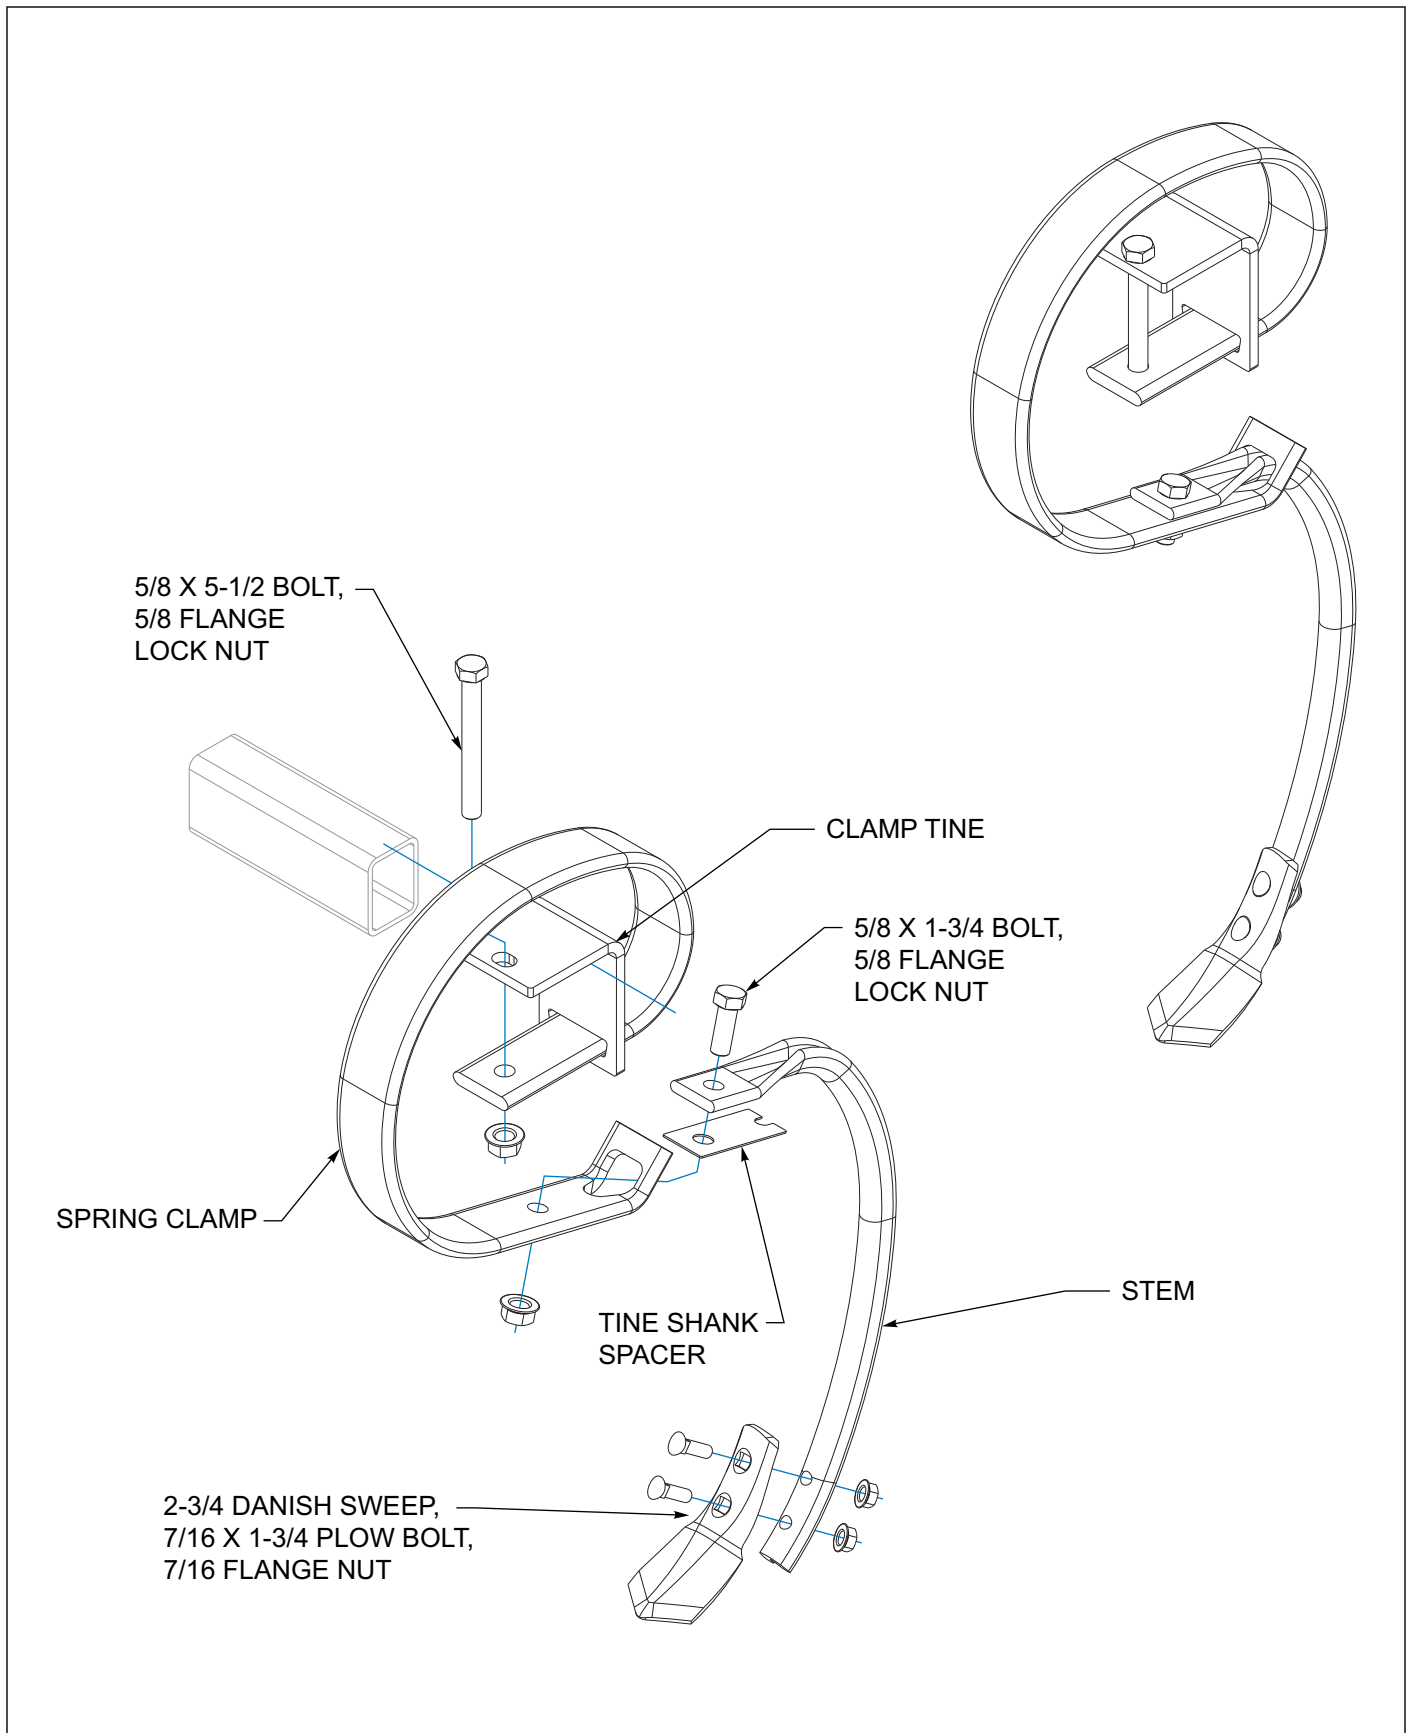

Figure 3-19: Shank Installation
1. Slide stems through slotted hole of the spring clamp *See Figure 3-19*. Secure with 5/8 x 1-3/4 bolt and 5/8 flange lock nut.